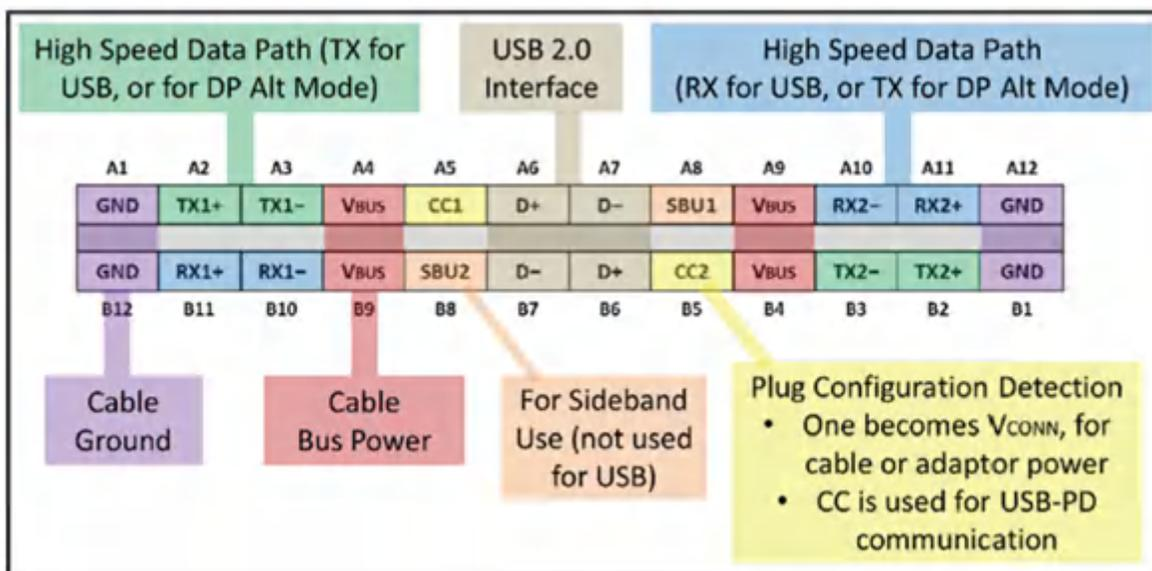

Figure 1. A Full-featured USB Type-C Plug-in Pinout
First, as with all systems where a connector is exposed externally to users, your system would need to have International Electrotechnical Commission (IEC) 61000-4-2 electrostatic discharge (ESD) protection. You will also need to protect more signal pins than in the previous USB Type-A or USB Micro-B connectors. The 24-pin USB Type-C connector (Figure 1) requires ESD protection for two differential pairs (D+/D-) for USB 2.0 data, four pairs for a SuperSpeed data bus capable of up to 20Gbps (TX/RX), two side-band-use (SBU) pins and two configuration channel (CC) pins for detecting cable orientation.